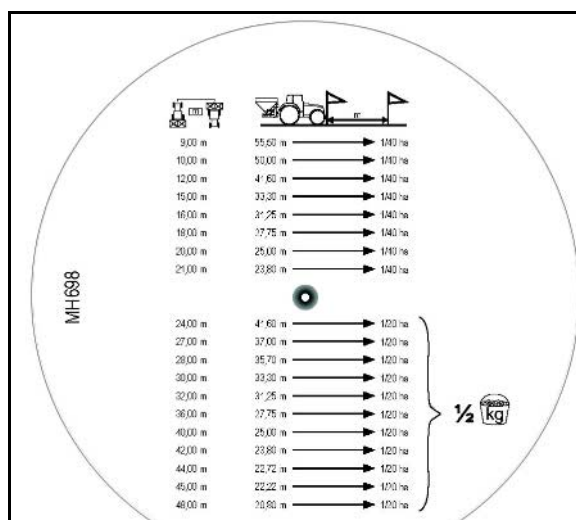

Fig. 57
2. Ditch spreading in accordance with fertiliser ordinance (Fig. 57):